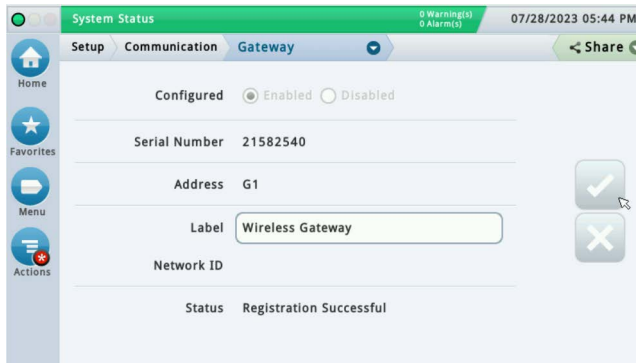

Figure 25. Gateway Reconfiguring to New Network ID
- While the Gateway is reconfiguring to the new Network ID the field is invisible (see Figure 25). Typically, Gateway reconfiguration completes within 45 seconds, although occasionally the timing is such that almost 3 minutes is required.